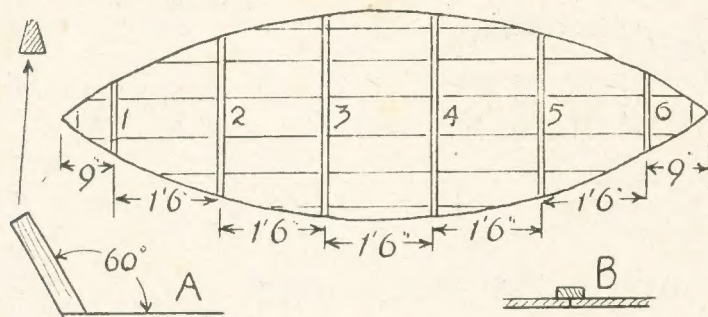

Fig. 1—A plan view of the floor and section of parts
Lute the edges of the boards close up tightly and keep together with a narrow batten at each end. Run a pencil line down the centre, and on this draw pencil lines across, as in plan view, Fig. 1, to guide the laying of the frame. At each end a stem post will be erected, as at (A). These are 1ft. 6in. lengths of 3in. square wood, planed to a triangular section, with a flat on the narrow end of $\frac{3}{4}$ in.
Now remove the bottom battens and saw the bottom of the canoe to the shape as in Fig. 1. The battens can then be permanently fixed in place, but should cover the edges of the canoe bottom as well. Owing to the rise at each end it will be found that these